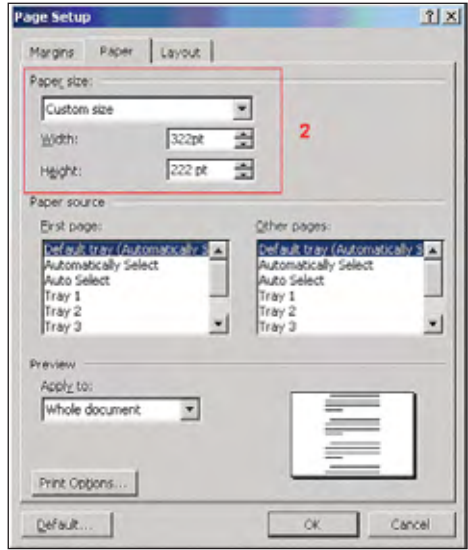
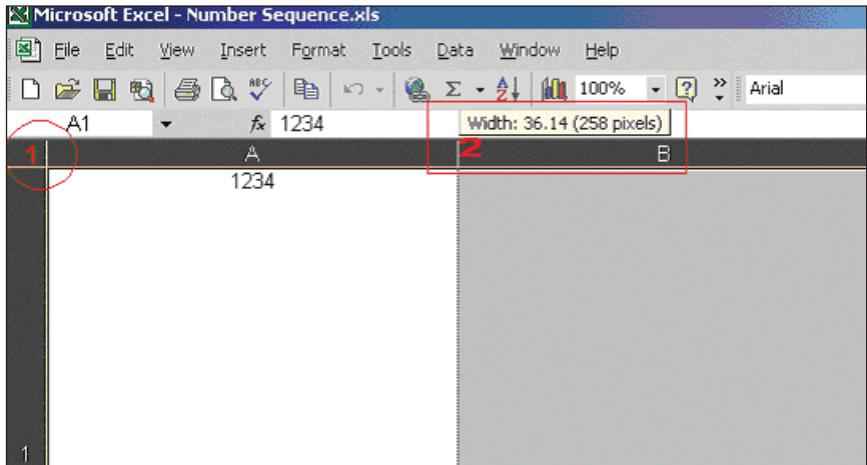

Fig. 2
Fig. 3
3. Next go to **File >>> Page Setup** and click on the **Paper** tab. If you started from a supplied template, make note of the width and height of the page as you will need to use these values to set the cell size in the Excel template. See **Fig. 2**. If you're starting from scratch, set the width and height to the desired size of the label.
3. Next, left-click and hold the column line between A and B. **See Fig. 2.** You can see a small box pops up giving you the pixel size of the width. You will want to set that value to the same width as your label. Do the same for the row height. **See Fig. 3.**